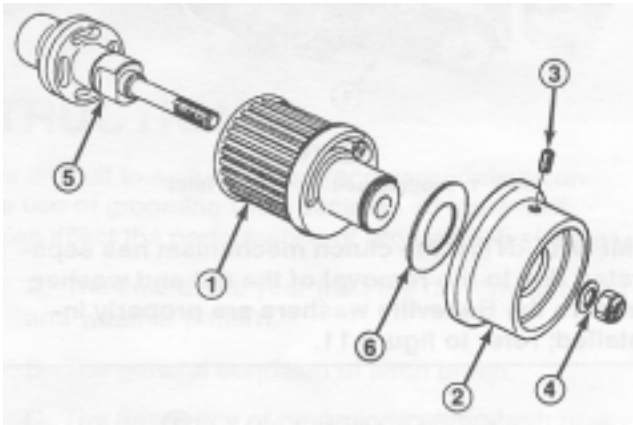

Figure 8
- A. Remove the clutch engagement knob from the clutch assembly by loosening the (2) allen head set screws and removing the nut and washer from the clutch adapter shaft (Fig. 8).